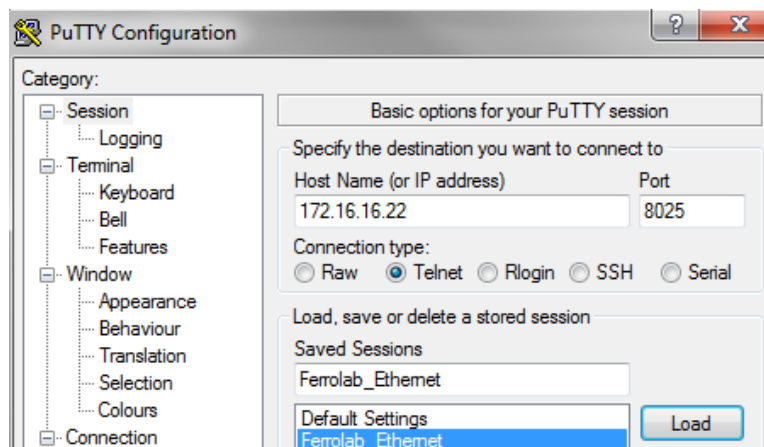

Figure 36: PuTTY setup screen to connect FL-1 to a computer or plant network.
10. Open PuTTY. In the PuTTY configuration window (see **Figure 36**), enter the IP Address of the FL-1 and select Telnet under Connection Type. Specify the Port Number to listen to. Refer **Table 8** for details regarding port numbers. For future use, this setting can be saved by specifying a name under Saved Sessions and clicking Save.